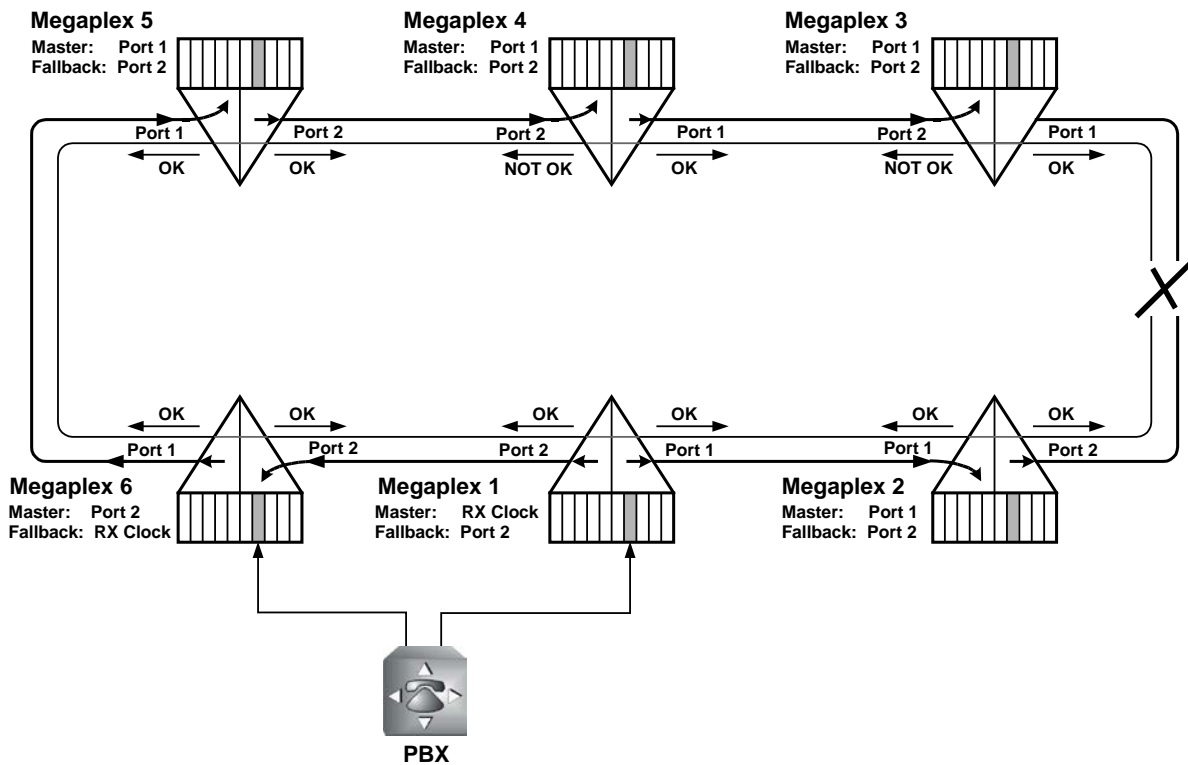
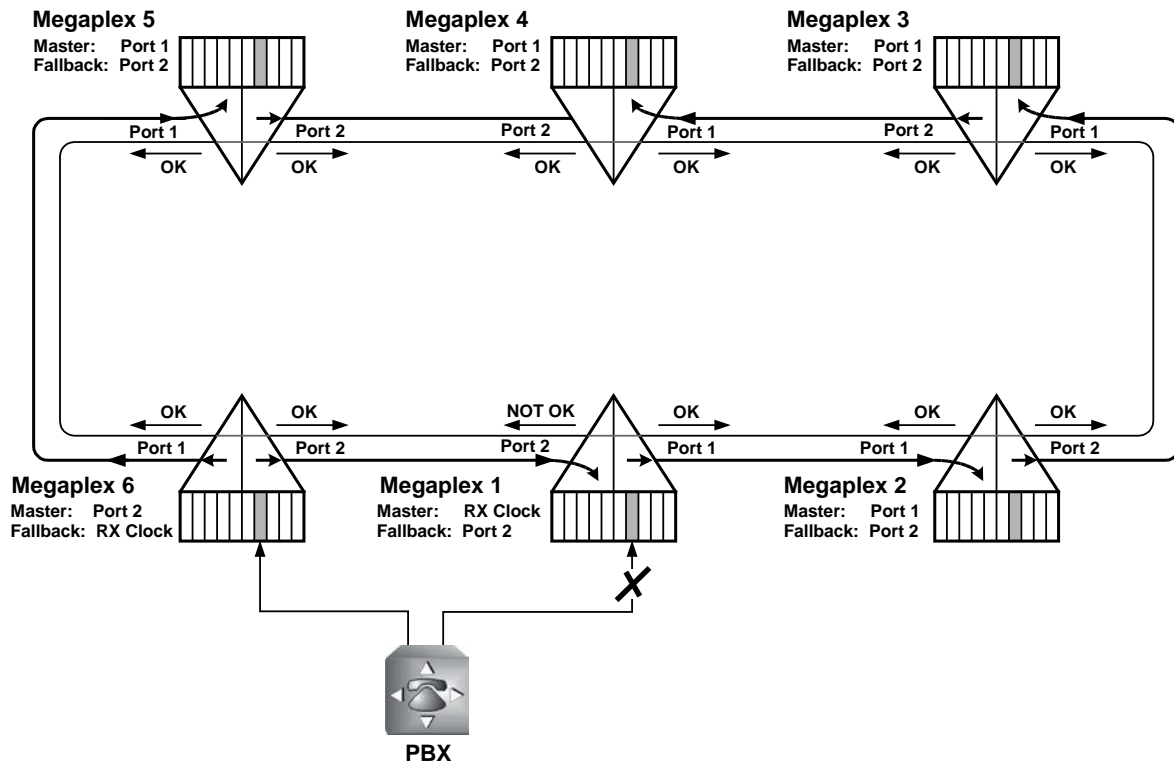

Figure 9-9. Timing Recovery Scenario - after a Ring Fault
Figure 9-10. Timing Recovery Scenario – after Loss of Master 3 Reference
The recovery from faults is illustrated in *Figure 9-9* and *Figure 9-10*:
- In case a fault occurs on the ring (*Figure 9-9*), Megaplex unit 3 can no longer use its master timing. Therefore, the CLOCK FAILURE ON THE RING alarm state is declared, and the following exchange of messages takes place:
At this stage, both the Megaplex 3 and 4 units have reacquired stable timing by switching to their fallback sources. The resulting timing flow is also illustrated in *Figure 9-9*.
- In case the fault occurs in the connection to the PBX (*Figure 9-10*), Megaplex 1 loses its master timing source. Therefore, the CLOCK FAILURE ON THE RING alarm state is declared, and the following exchange of messages takes place:
At this stage, Megaplex 1 has reacquired stable timing by switching to the fallback sources. The resulting timing flow is also illustrated in *Figure 9-10*.